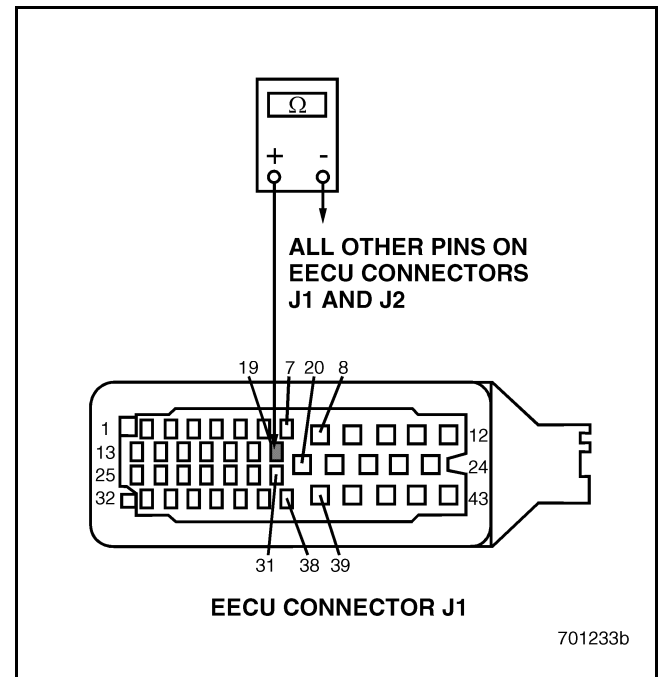

Figure 396
3. Disconnect the Engine Position (EP) Sensor connector.
4. Check for continuity between EECU connector J1 pin 19 and all other pins on EECU connectors J1 and J2 (see Figure 396).